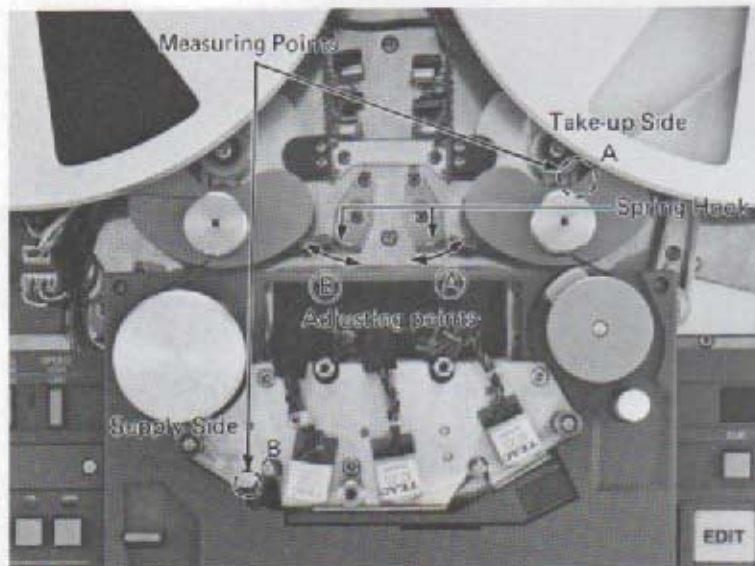

Fig. 9-4-7. Tape Tension Measurement and Adjustment Points
Thread a blank tape onto the deck in the same manner as described in A (2) and set the deck into the edit mode. Measure the tape tension at both the take-up side and supply reel side with a tension analyzer or a tentelo meter. The measurement should be made at both the supply side and take-up side at points A and B as shown in Fig. 9-4-7.
If a tentelometer is used to measure tape tension, run tape in the Spooling mode, then stop the supply reel by hand and read the meter at A (in forward spooling) and B (in reverse spooling) shown in Fig. 9-4-7. The tentelometer should indicate  $170 \pm 15$  g at both points. If values do not meet specifications, adjust FF(T)R40 and REW(T)R41.